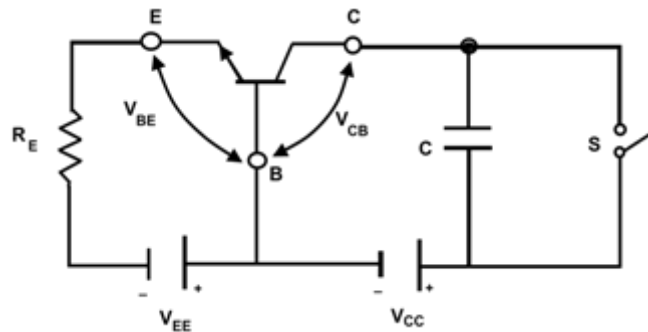

Figure 2: Constant Current Ramp Generator
- Figure 2 shows a circuit to generate a ramp using constant current from a common base transistor. We know that except for very small value of collector to base voltage, the collector current of a transistor in the common base configuration is very nearly constant, when the emitter current is held fixed.